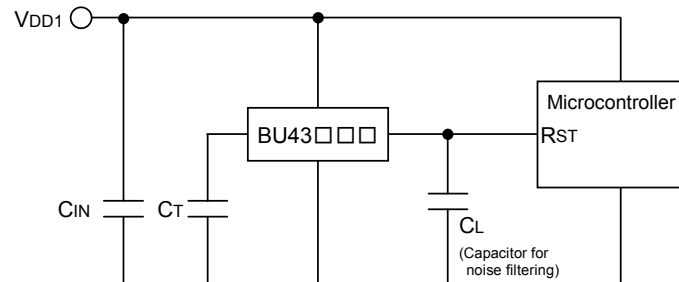

Fig.19 CMOS Output type
CASE2: The power supply of the microcontroller (Vdd1) is same as the power supply of the reset detection (Vdd1). Use CMOS output type (BU43□□□G/FVE) or Open Drain Output Type (BU42□□□G/FVE) attached a load resistance (RL) between the output and Vdd1. (As shown Figure 19)